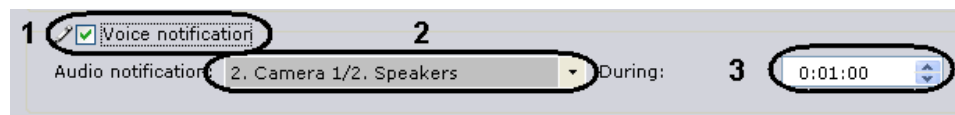

Fig. 6.5—32 Configuring voice notification
1. Select the **Voice notification** check box (Fig. 6.5—32, 1).
2. From the **Audio notification** list (see Fig. 6.5—32, 2), select the **Speaker** object corresponding to the speaker on which you wish to play the voice notification.
3. In the **During** field (see Fig. 6.5—32, 3), enter the time in the format HH:MM:SS during which the voice notification is to be transmitted.